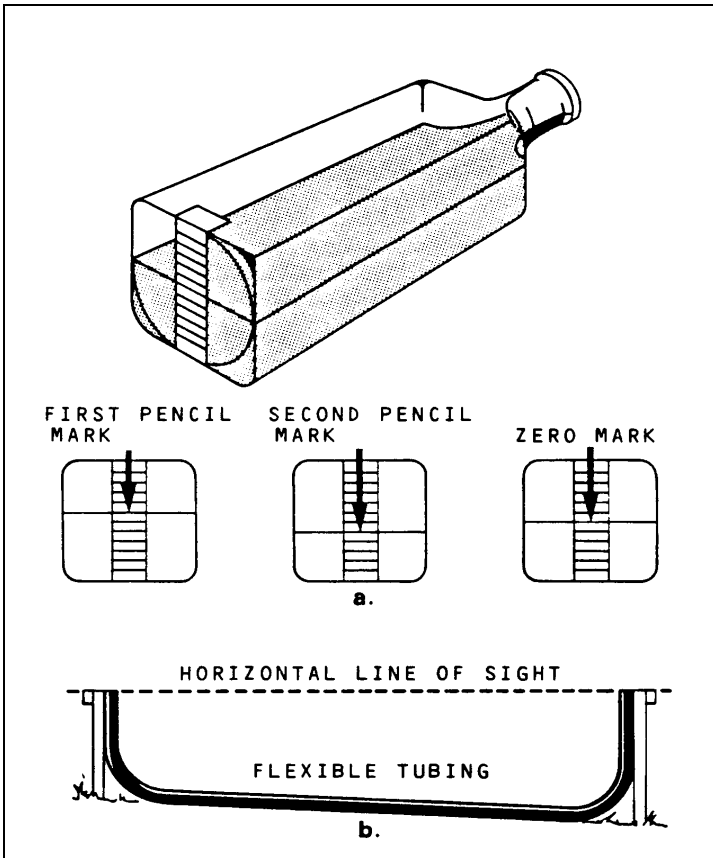

Fig 11-1-4 Improvised Levelling Devices
8. A flat sided bottle filled with water, oil or some other liquid can be used as a level (Fig 11-1-4 a). To make a level, place a short length of tape about 5 mm across the end of the bottle as shown below, mark the tape with horizontal lines about 5 mm apart. Half fill the bottle with liquid and lay it on a roughly level surface, mark the liquid level on the line on the tape. Rotate the bottle 180 degrees and mark the liquid on the tape again, if the